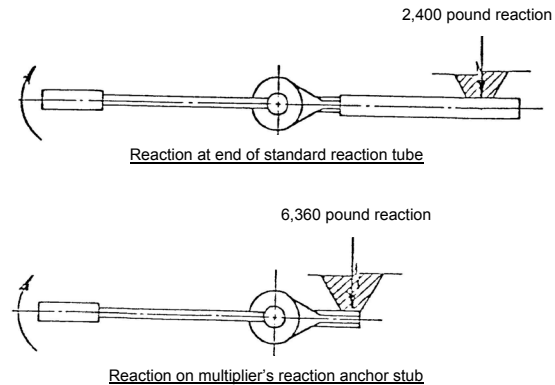

Figure 1
2.4 Determine where the reaction anchor forces are going to take place (e.g. against a flange or over an adjacent bolt). Make sure that this point can withstand the torque tool's reaction forces. For example consider a 3,200 Ft-Lb. torque multiplier, with reaction near the end of its anchor stub (figure 1). This will produce a reaction force of about 6,400 pounds. By moving the reaction to the end of the anchor tube, the force is reduced to about 2,400 pounds. Keeping the reaction point tangent to the rotation of the torque output is necessary to prevent the resultant forces from increasing even more (figures 2 and 3).